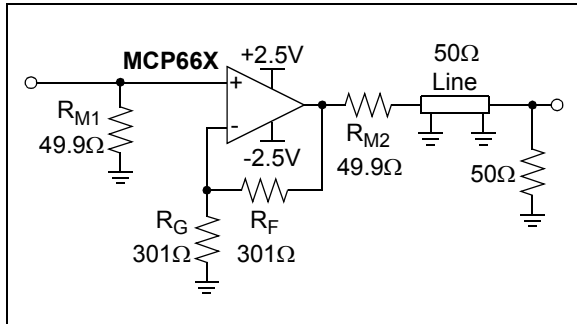

FIGURE 4-10: 50Ω Line Driver.
Differential gain (DG) and differential phase (DP) refer to the nonlinear distortion produced by an NTSC or a phase-alternating line (PAL) video component. The AC Electrical Specifications table and Figure 2-34 show the typical performance of the MCP661, configured as a gain of +2 amplifier (see Figure 4-10), when driving one back-matched video load ( $150\Omega$ , for  $75\Omega$  cable). Microchip tests use a sine wave at NTSC's color sub-carrier frequency of 3.58 MHz, with a  $0.286V_{P-P}$  magnitude. The DC input voltage is changed over a +0.7V range (positive video) or a -0.7V range (negative video).
Figure 4-10 shows the MCP661 driving a 50Ω line. The large output current (e.g., see Figure 2-18) makes it possible to drive a back-matched line ( $R_{M2}$ , the 50Ω line and the 50Ω load at the far end) to more than ±2V (the load at the far end sees ±1V). It is worth mentioning that the 50Ω line and the 50Ω load at the far end together can be modeled as a simple 50Ω resistor to ground.